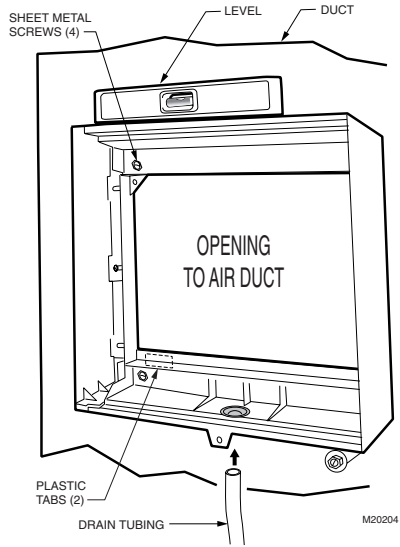

Fig. 5. Installing humidifier on duct.
8. Make sure the humidifier housing is level, then position it in the opening so the plastic tabs are in place on the *lower sheet metal edge* of the opening. Use pliers, as necessary, to flatten cut edges. See Fig. 5.